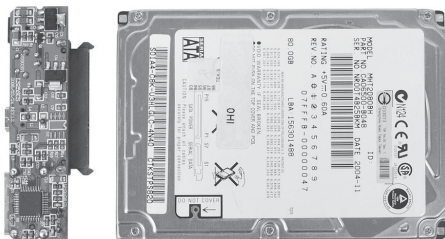
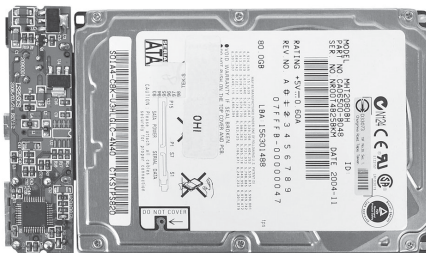

**Figure 3**
**Figure 4**
1. Remove the 2 screws in each side, see **Figure 3**. Slide the top cover out of the case, then slide the lower cover out of the case, see **Figure 4**.